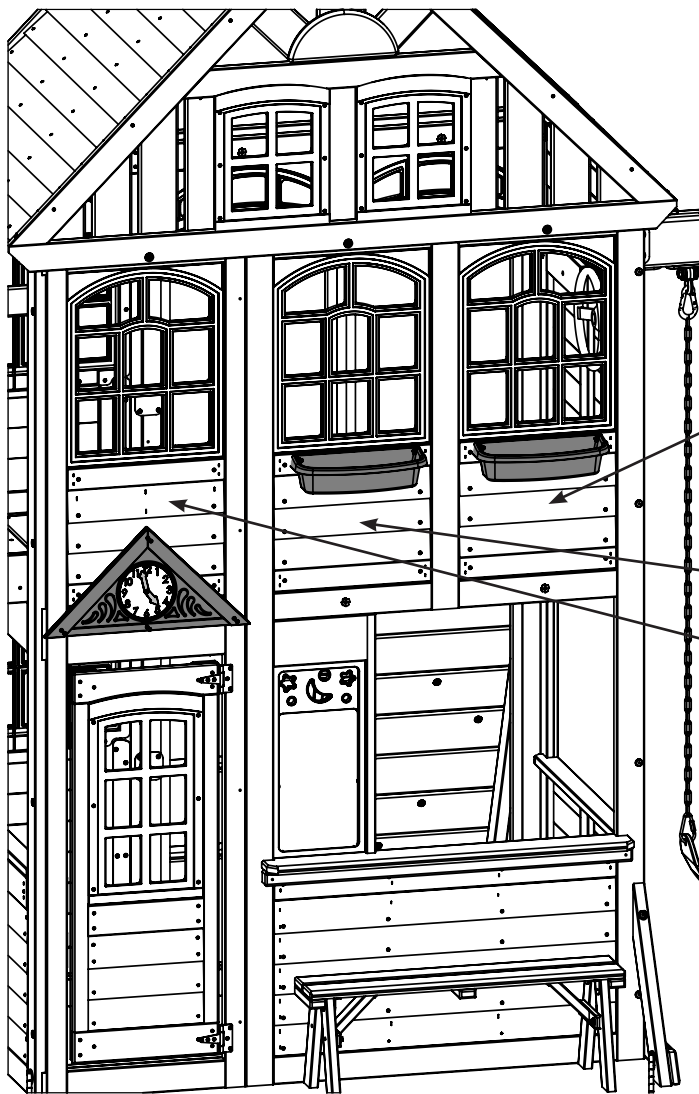

Fig. 48.1
A: On the front of the assembly place 1 Flower Box under centre and right windows and attach to (051) Front Wall Panel and (470) Upper Window Insert with 2 (S13) #6 x 5/8" Pan Screws per Flower Box. (fig. 48.1 and 48.2)
B: On the front of the assembly measure 3-1/4" up from the bottom of the centre board in (042) Narrow Front Panel then place the Gable Clock Assembly at the marked location then attach with 4 (S10) #8 x 1" Pan Screws. Make sure the top screw connects to the block at the back of (042) Narrow Front Panel. (fig. 48.1, 48.3 and 48.4)